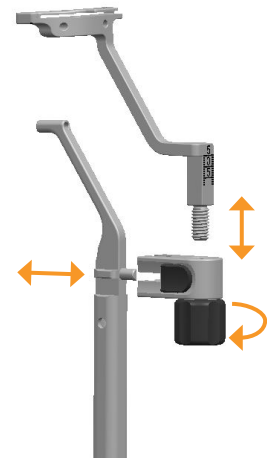

Figure 91
3. Attach the EM Tibial Alignment Guide Micro Head Dial to the Alignment Tube by depressing the button on the Micro Head Dial sliding it onto the Alignment Tube (Figure 91).
4. Attach the appropriate hand Cutting Guide Head to the Micro Adjustment Tibial Alignment Dial by engaging the threads and rotating the black dial (Figure 91).